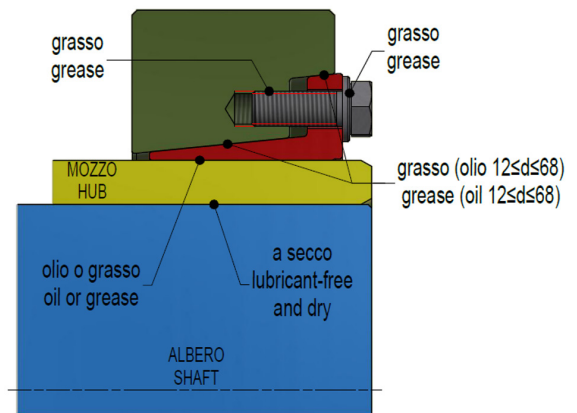
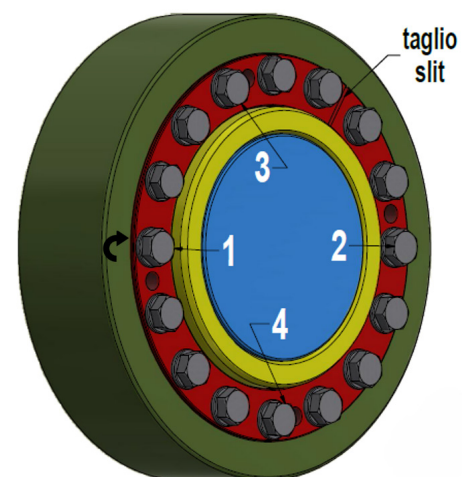

Fig. 2
Fig. 3
Do not remove the grease from screws and conical surfaces (fig. 2). Never tighten the screws prior to mounting the Shrink Disc onto the shaft, as inner ring and/or hub might remain permanently contracted even at relatively low tightening torques.
1. Clean hub OD and Shrink Disc bore. For ease of installation, lightly lubricate hub OD before assembling Shrink Disc onto hub (fig. 2).
2. Carefully solvent clean and dry shaft and hub bore from any lubricant (fig. 2) prior to mounting hub onto shaft. This step is critical, as any lubricant on the shaft/hub bore interface will greatly reduce the capacity of the Shrink Disc connection.
3. Move the Shrink Disc onto the hub, then move the hub onto the shaft until the required position is achieved. The shaft must support completely the tolerated section of hub bore (fig. 2). Hand-tighten three or four evenly spaced screws (fig. 3) and make sure that inner and outer rings are aligned; then hand-tighten remaining screws.